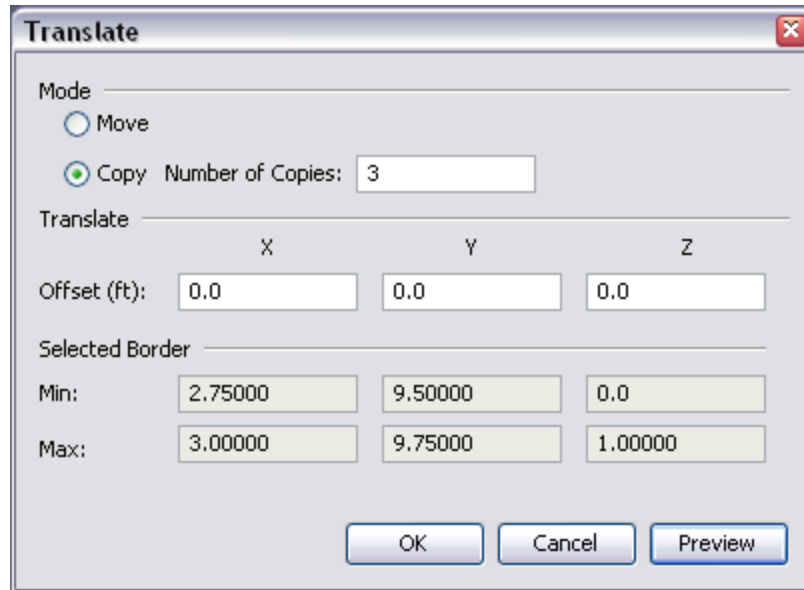

Figure 111. The translate dialog
3. This will show the Translate dialog, Figure 111.